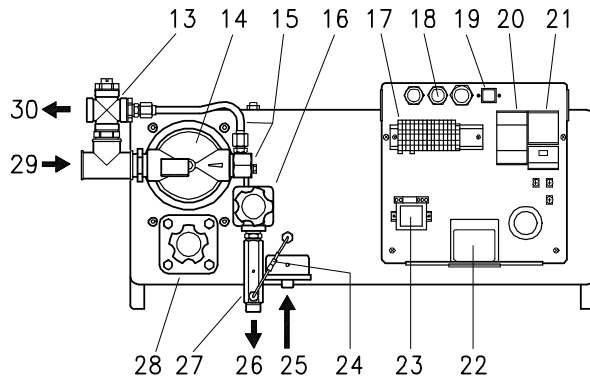

Fig. 4
**DESCRIZIONE BAG (Fig. 4)**
**BAG DESCRIPTION (Fig. 4)**